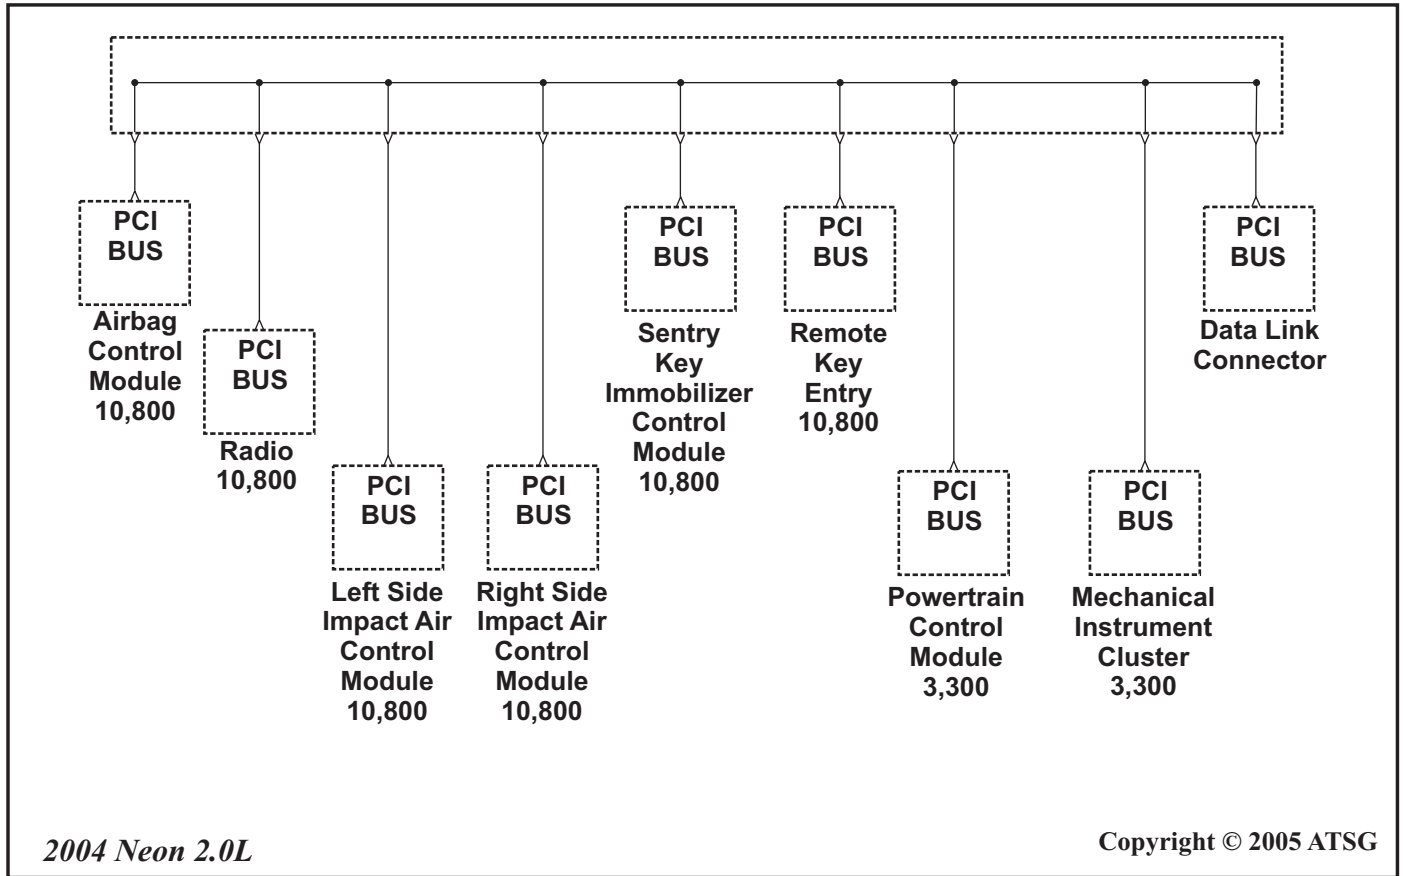

Figure 14
**CORRECTION:** A quick test that can be performed is to add up all the modules on the Bus and check the resistance of all the modules terminating resistors at the DLC. With this particular vehicle, there are a total of 8 modules on the Bus system (See Figure 14). 2 of the modules have 3,300 ohms while the other 6 have 10,800 ohms. There is a mathematical equation for *equivalent* resistance in a parallel circuit where the equivalent resistance is added up and divided into 1 as provided in figure 15. Since we have two 3300 ohm modules and 6 10800 ohm modules, we do not have equivalent numbers to add up to be divided into 1. To acquire that number we would take the two modules that measure 3300 ohms each and the six modules that measure 10800 ohms each and turn them into fractions:  $2/3300 + 6/10800$ . Before they can be added together these fractions need to be simplified:  $1/1650 + 1/1800$ . Now divide the denominator into the numerator and this is what you get:  $0.0006 + 0.00056 = 0.00116$ . It is this number that can be divided into 1 which equals a total of 862 ohms. This is the total resistance of all the modules in the Neon's PCI Bus circuit and should be seen at the DLC terminal 2 (See Figure 16).